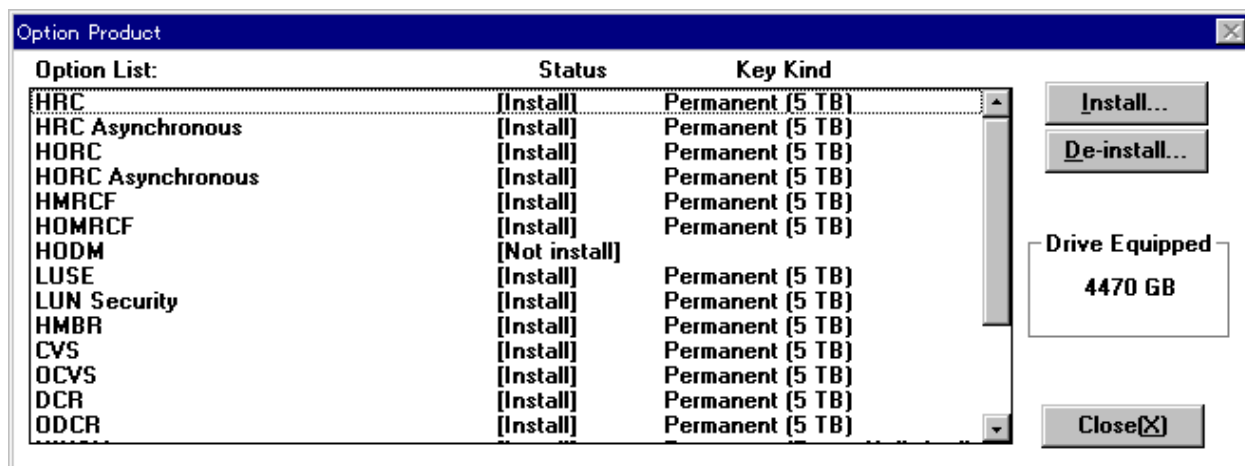
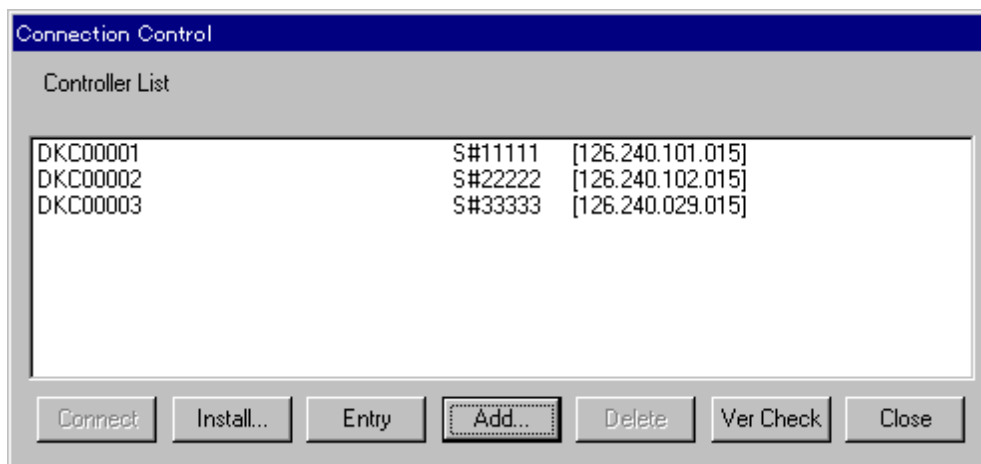

Figure 2.16 DKCMAIN Option Product Panel
Figure 2.19 Connection Control Panel
The DKCMAIN Option Product panel (see Figure 2.16) displays the DKCMAIN options and their current installation status (**Install** or **Not install**). To access the DKCMAIN Option Product panel, select the **Controller...** button on the Remote Console Main panel, select the first subsystem on which you want to enable the option on the Connection Control panel (see Figure 2.19), and then select the **Install...** button.
2. On the Remote Console Main panel, select **Controller...** to open the Connection Control panel (see Figure 2.19).
3. On the Connection Control panel, select the first subsystem on which you want to enable HMBR, and then select the **Install...** button to open the DKCMAIN Option Product panel (refer to Figure 2.16).
9. On the Remote Console Main panel, select **Controller...** to open the Connection Control panel (refer to Figure 2.19).
10. On the Connection Control panel, select the first subsystem on which you want to enable these options, and then select the **Install...** button to open the DKCMAIN Option Product panel (refer to Figure 2.16).
3. On the Connection Control panel, select the subsystem on which you want to disable an option, and then select the **Install...** to open the DKCMAIN Option Product panel (refer to Figure 2.16).